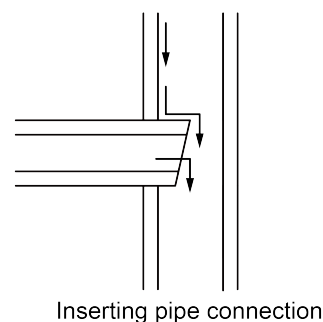

Fig.4.3.8
- No.3: Inserting pipe connection (Fig.4.3.8)